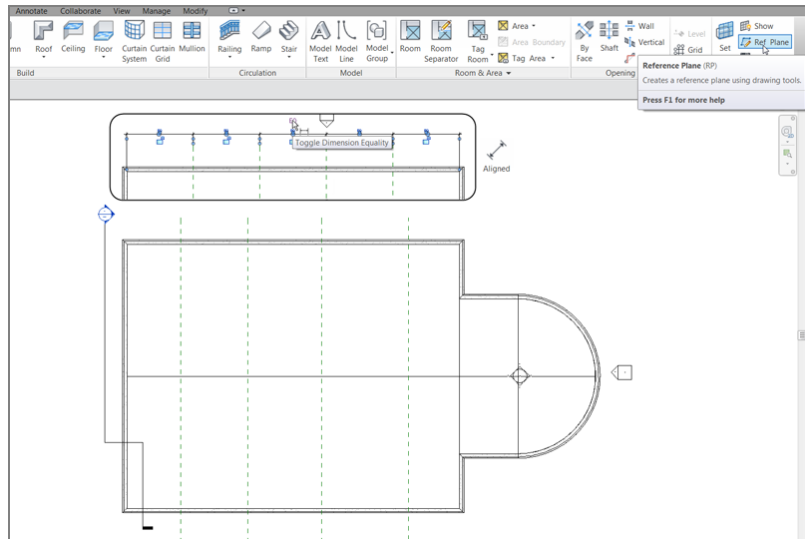

FIGURE 7.10: Add a dimension string to the reference planes shown here.
10. Press Esc twice, or click Modify. Then, on the Architecture tab, click Ref Plane, as shown at the upper right in Figure 7.10.
11. Draw four reference planes spaced approximately the same as in Figure 7.10.
13. Add a dimension string starting at the exterior wall to the left and ending at the exterior wall to the right (see Figure 7.10).